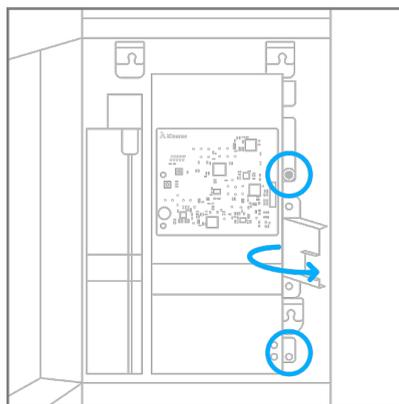
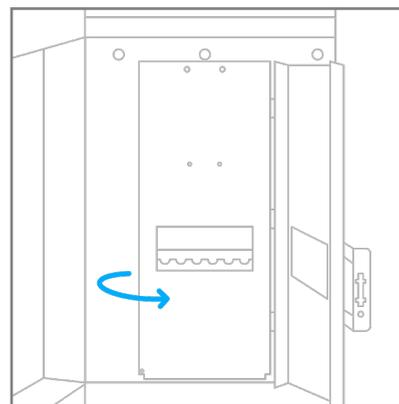

Figure 28.
Figure 29.
Step 2: With the main housing open and the power switch in the "OFF" position (O), rotate the fan duct out (Figure 28.) then open the disinfection chamber (Figure 29.).